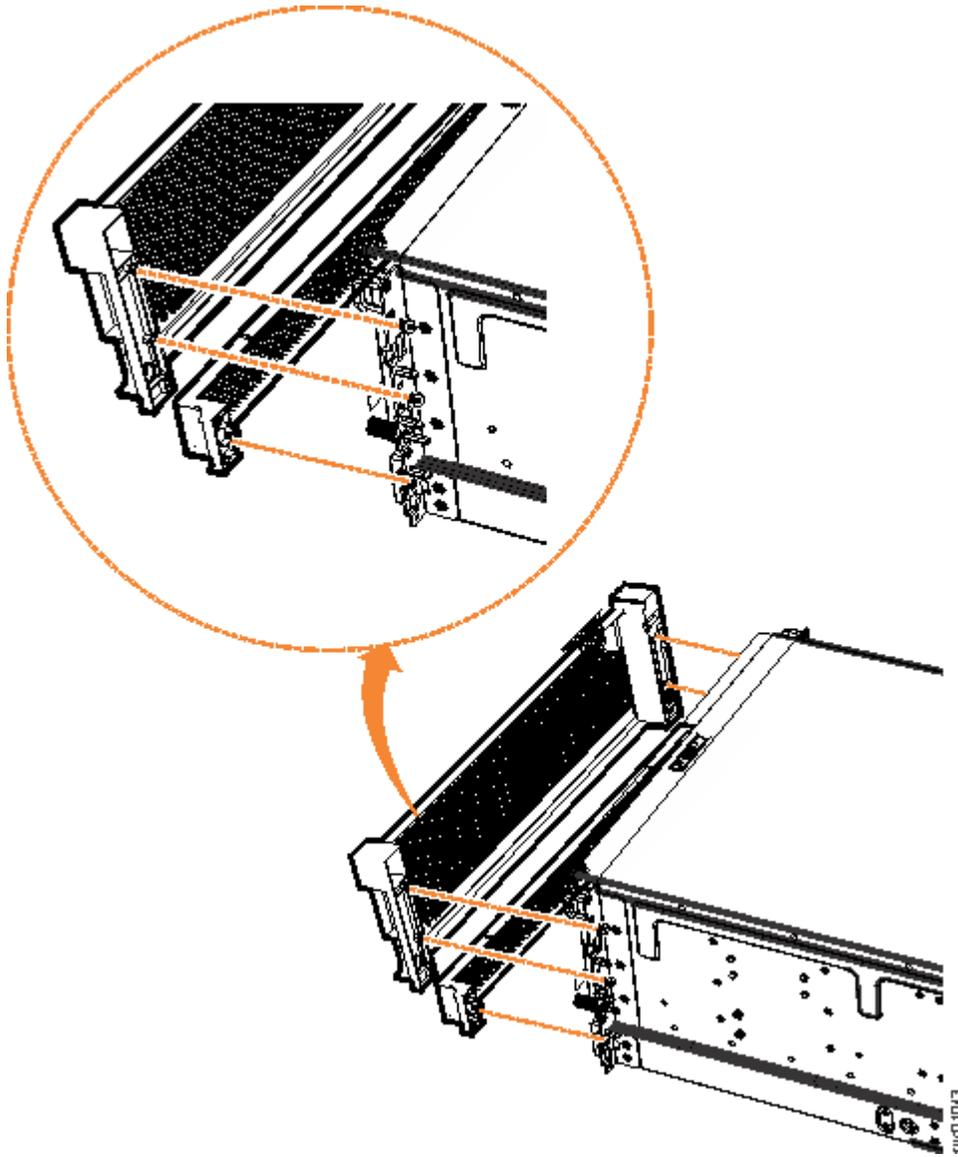

Figure 91. Replace fascia components on the expansion enclosure
1. Align the front 4U fascia with the enclosure so that the thumbscrews go through the holes on each side. As Figure 91 on page 81 shows, this action aligns the screw holes on the back of the fascia with the screw holes on the front flange of the enclosure.
3. Reattach the bottom 1U fascia that covers the power supply units (PSUs). Align the fascia with the enclosure and gently push it until it clicks into place on the chassis, as shown in Figure 91 on page 81.